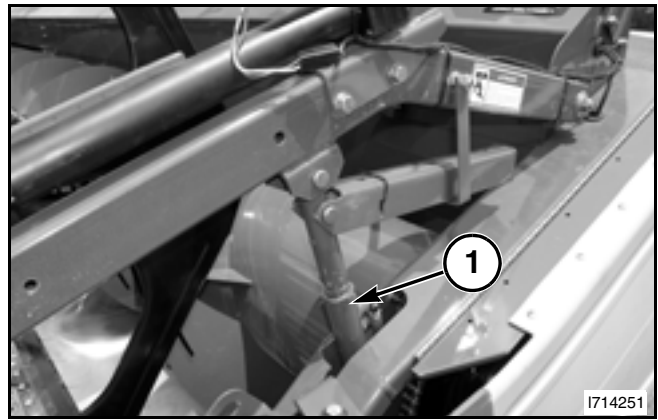

FIG. 65
FIG. 65: To set the minimum reel height, first completely lower the header to the ground. Then operate the reel height control in the operator's area to lower the reel until both reel lift rams (1) are completely retracted.